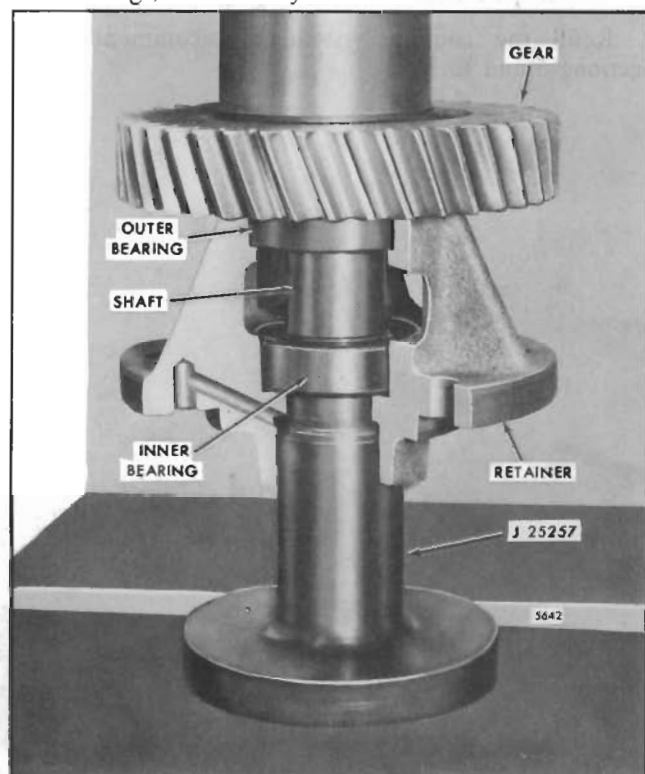

Fig. 12 - Pressing Gear on 16V Water Pump Shaft
4. With gear installer J 25257 (Fig. 12) positioned on the threaded end of the shaft, place the bearing retainer assembly on the bed of an arbor press. Press the gear on the shaft so that it is flush with the end of the shaft.